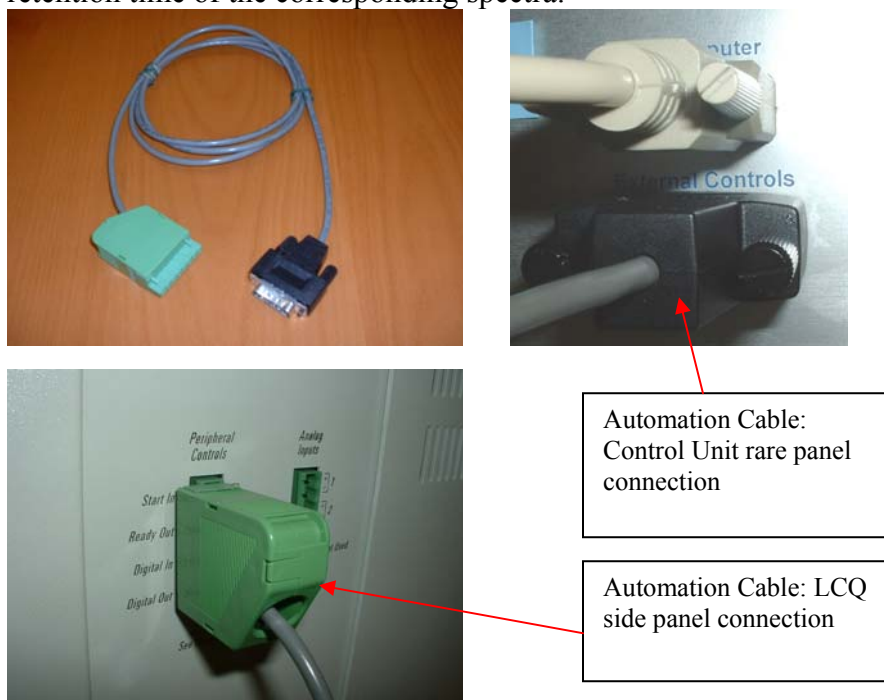

Fig. 7-24 External Control cable and its connection to the rare panel of AP/MALDI control unit and to the side panel of LCQ.
The second automated mode (that is called “External timing”) enables to record the spectra of a number of individual samples in separate files under separate user-defined names. Now LCQ communicates with AP/MALDI source through exchange of bi-directional “Start” and “Ready” signals. This mode of operation requires a special “External control cable” for connecting the AP/MALDI’s “External Control” connector on the Control Unit rear panel with the LCQ’s “Peripheral Controls” connector. The cable and its connection are shown in the Fig. 7-24.
Different modes of AutoSequence are available (Fig. 7-24) and include: Geometrical Centering (Geometry) and User-defined Centering (Manual). The present modes are used to determine the center position of samples on a target plate.
1. For External Timing mode, **connect** the “External Control” connector on the Control Unit’s rear panel to the LCQ “Peripheral Controls” port (Fig. 7-24).